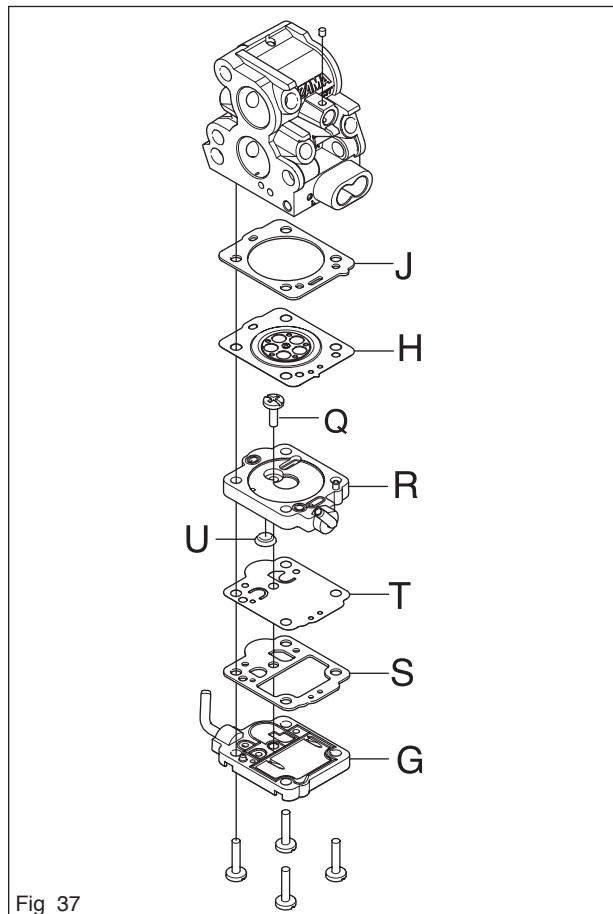

Fig 37
7. Fit the control diaphragm (T) with gasket (S) and measuring chamber cover (R) over the metering unit (see figure 37).
8. Press in the screen (U). Fit the measuring chamber cover (R) and tighten the screw (Q) (see figure 37).
9. Put together the gasket (J) and control diaphragm (H) and press up (see figure 37).
10. Assemble all the parts and tighten the four screws (see figure 37).
Lower the carburettor into a beaker of water (see figure 37).